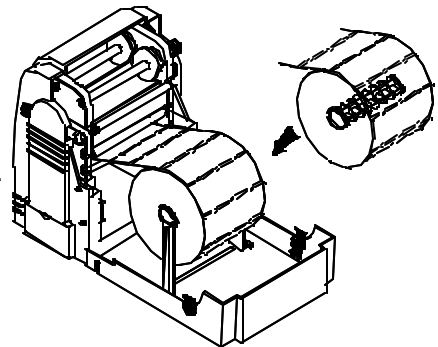

Fig. 2.3.3
3. Remove the label roll stands (part 23). Vertically place the two stands along the left side and right side of the back cover (see Fig. 2.3.3).
4. Place the large-size label roll on the stands (see Fig. 2.3.3).